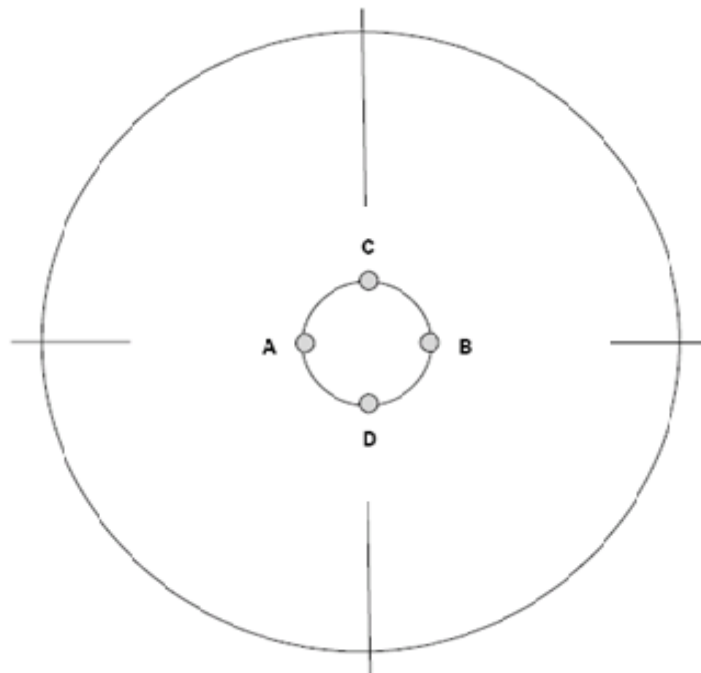

Fig 1.6, Tack Welding from **INSIDE** the vessel head
2. Tack weld at A and B (fig 1.6). Check the inner surface to ensure the valve is FLUSH.
4. Tack weld at C and D (fig 1.6).